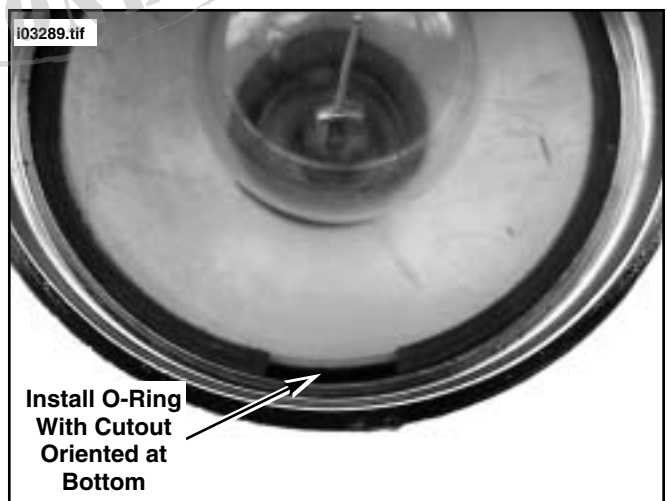

Figure 13. Install O-ring
- See Figure 13. Install the O-ring and inner housing into the directional housing with the cutout oriented at the bottom as shown.